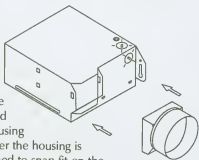

Fig. 1
remove the fan's venturi assembly, which is secured in place with one screw through the venturi. This is a captive screw and will stay installed in the venturi. The plastic duct collar and damper is not attached to the housing because it is easier to attach it after the housing is installed in the ceiling. It is designed to snap fit on the housing in only one way (fig. 1). Keep the venturi assembly and grill in the carton until needed so they do not get damaged or lost.
- Attach the snap-fit collar and damper as shown in figure 1.